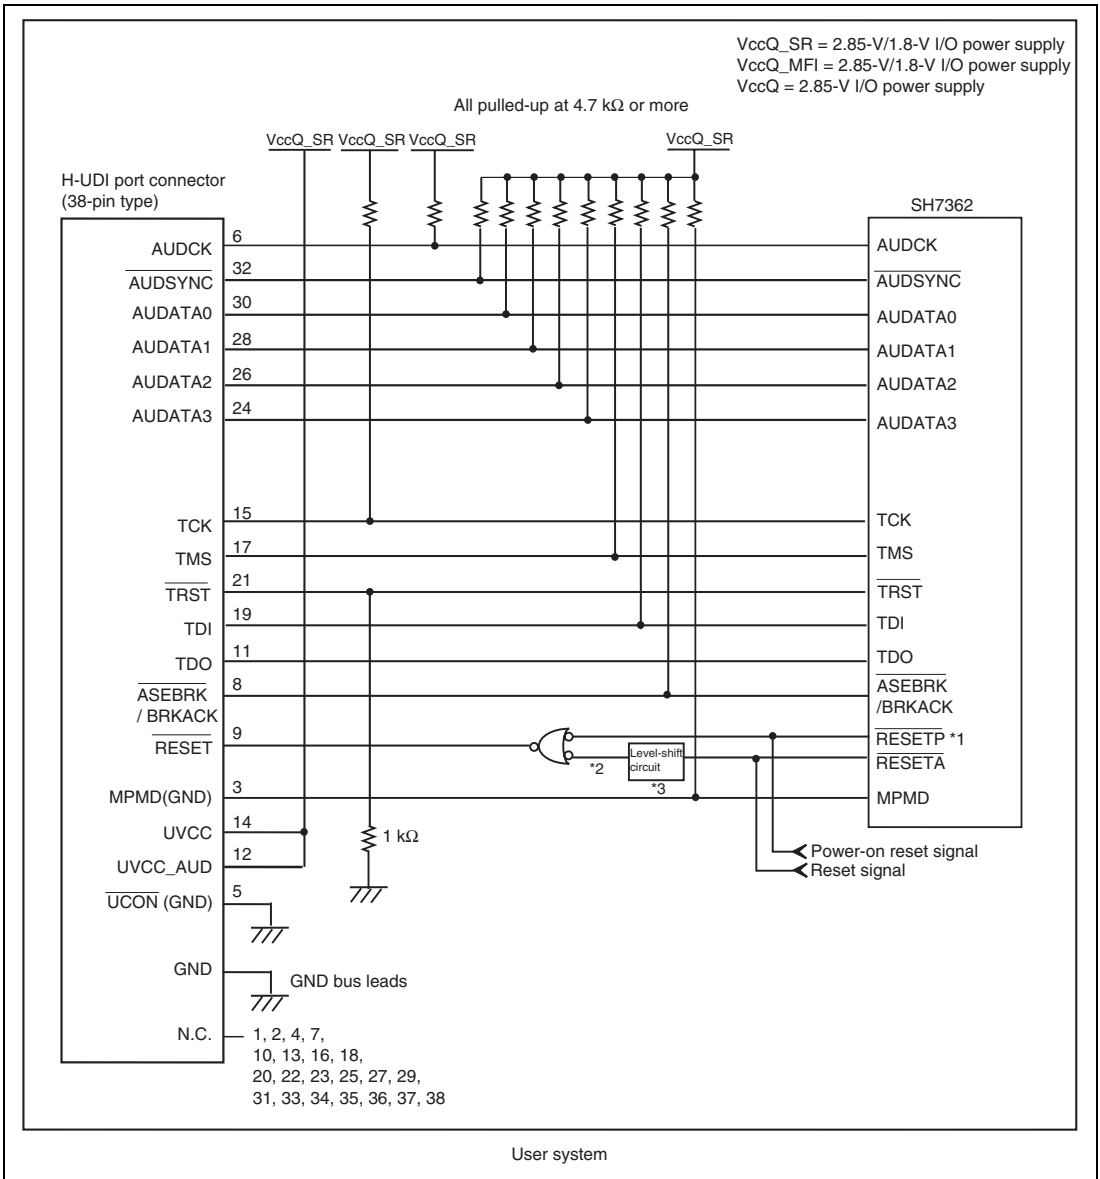

Figure 1.7 Recommended Circuit for Connection between the H-UDI Port Connector and MPU when the Emulator is in Use (38-Pin Type)
6. Connect /RESETP and /RESETA to the user system if required, as shown in figure 1.7.
Figure 1.7 shows a recommended circuit for connection between the H-UDI and AUD port connectors (38 pins) and the MPU when the emulator is in use.
(1) When the emulator is used: $MPMD = 0$
(2) When the emulator is not used: $MPMD = 1$
Figure 1.7 shows an example of circuits that allow the MPMD pin to be GND (0) whenever the emulator is connected by using the user system interface cable.
7. The resistance value shown in figure 1.7 is for reference.
When the circuit is connected as shown in figure 1.7, the switches of the emulator are set as SW2 = 1 and SW3 = 1. For details, refer to section 3.8, Setting the DIP Switches, in the SuperH™ Family E10A-USB Emulator User's Manual.